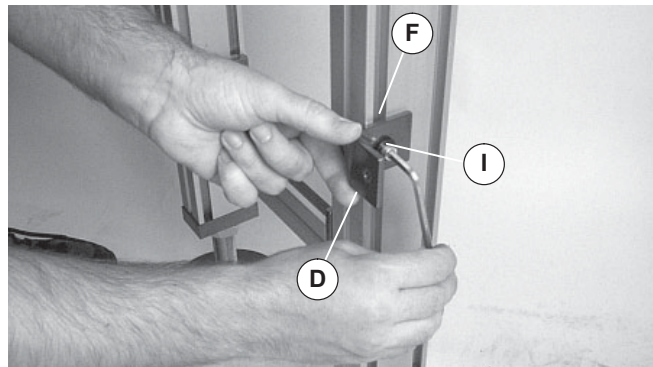

Figure 12
<p>For a 90° stand to stand mounting, loosely attach 90° bracket (Figure 12, item D) to T-bar (F) using screw and washer (I).</p>